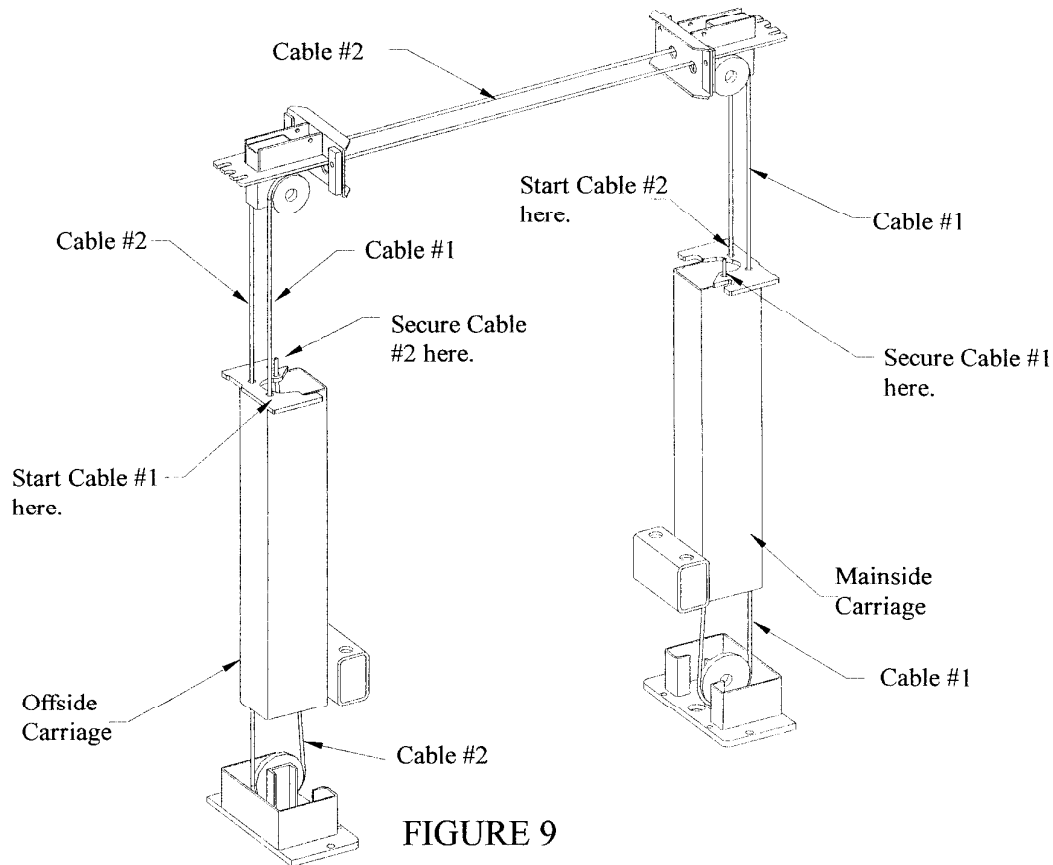

FIGURE 9
16. Refer to Figure 9 for installation of carriage cables. Assemble a 3/4" NF nylon insert nut with a SAE washer onto one end of each cable. Start at the left rear hole at the top of the offside carriage. Thread the cable up through the hole in the carriage top, up to the overhead pulley, across to the other overhead pulley on the mainside through the holes in the cylinder mount weldment, down through the right rear hole in the carriage top, around the pulley in the leg bottom, and up to the right front hole of the carriage top. Secure the cable end with a 3/4" NF nylon insert nut and SAE washer. Do NOT tighten the cable at this time.